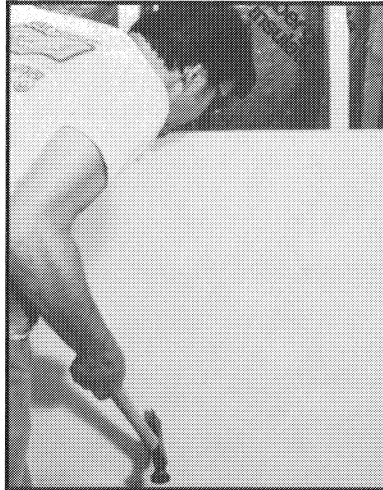

Fig. 4
3. Position wall covering against wall. Sight electrical box position (see Fig. 4) and mark the approximate center of the box on the face of the wall covering. The hatchet end of your hammer is an excellent tool for this purpose. Attach covering to wall.